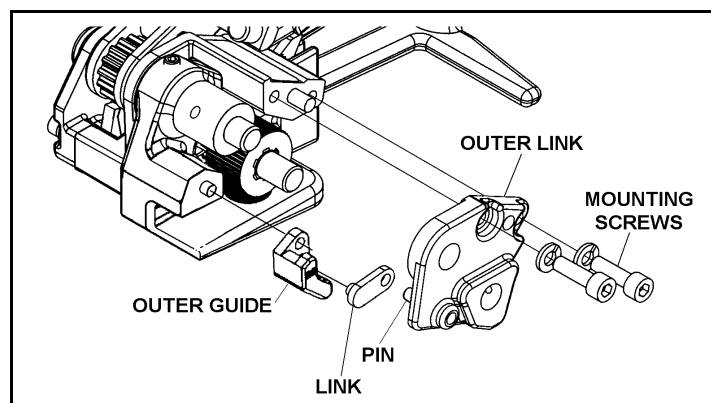

FIGURE 4
5. Front guide and link must be installed only as shown (See Figure 4).